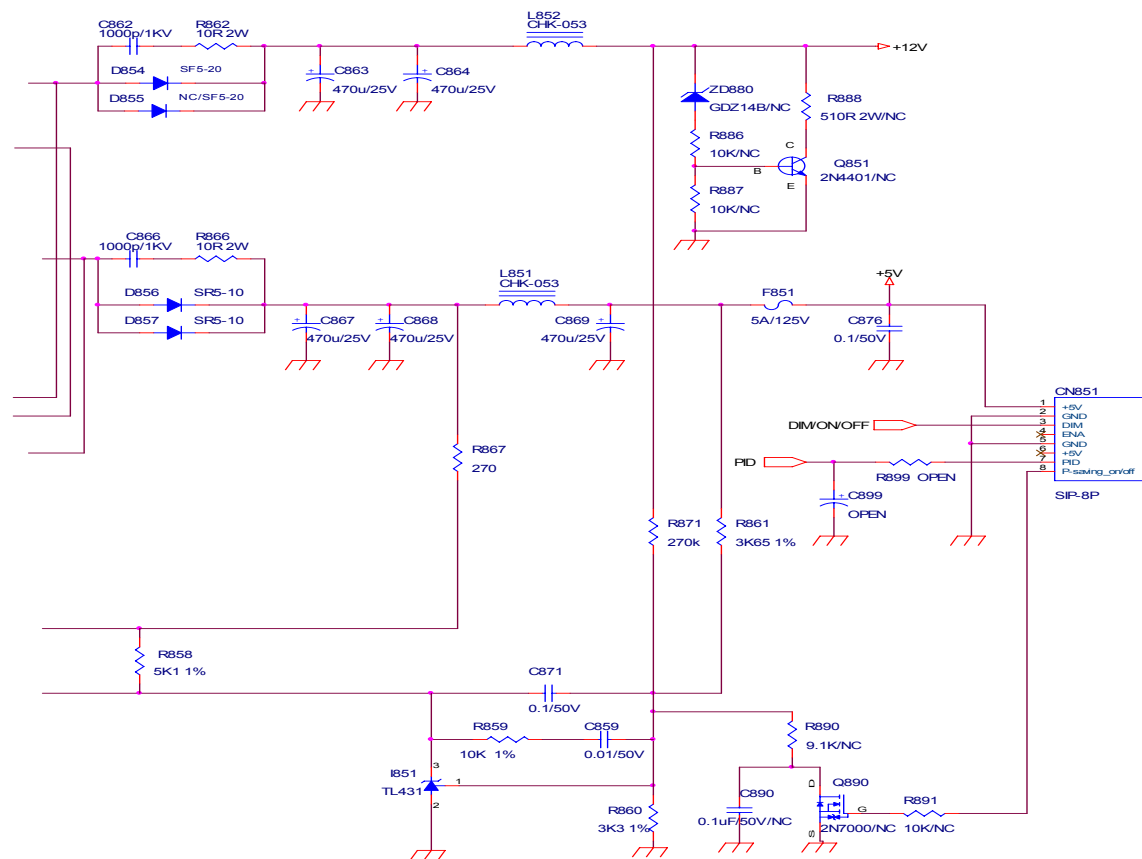

Fig.7
2.2.4) DC 12V and DC 5V Output Circuit and Feedback circuit:(fig.7)